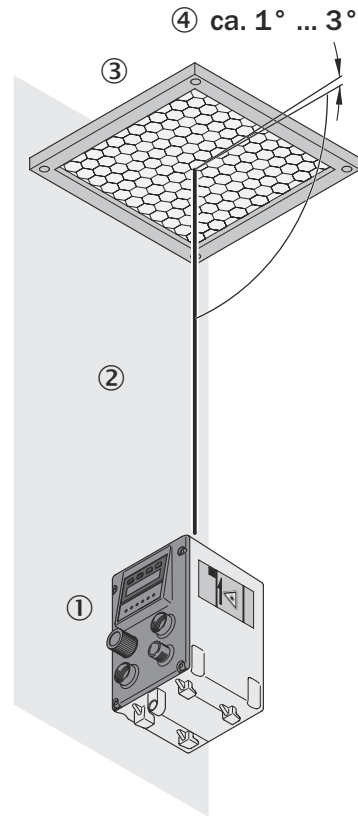

Figure 7: Reflector tilt for shiny surfaces and vertical stroke axis
- If the sensor is mounted in the stroke axis of an automated storage and retrieval system, tilt the reflector away from the mast system see figure 7, page 20.